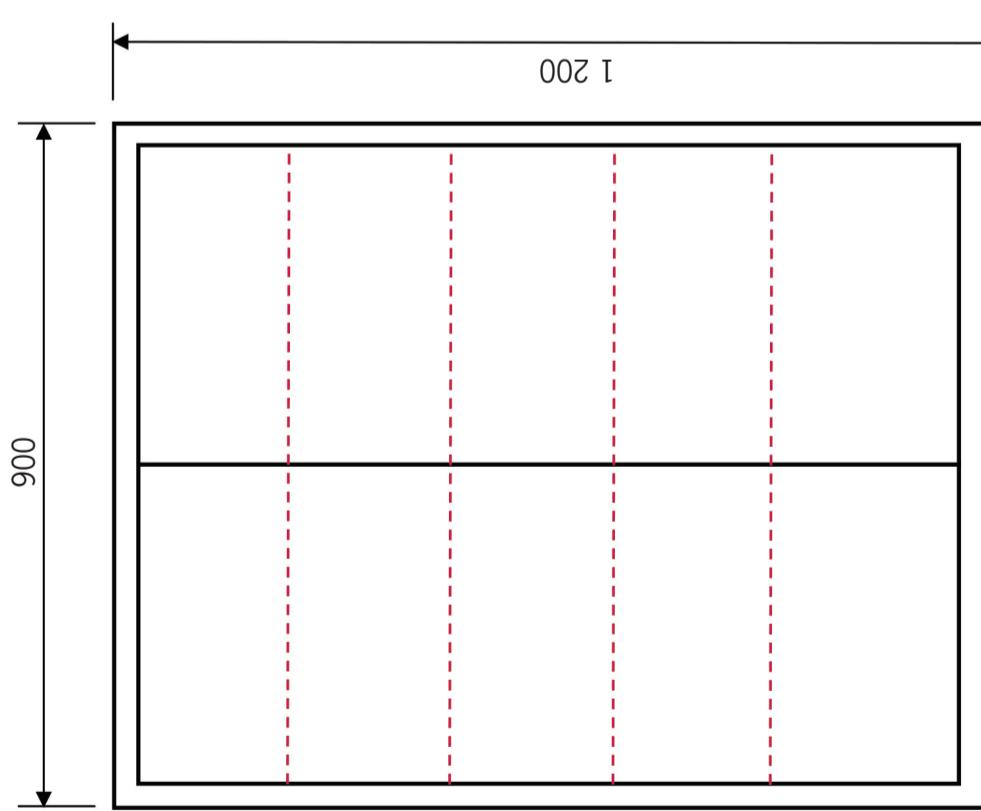

Figure 6
12. What is the scale of the working drawing of the cupboard in Figure 6? You will have to take measurements to find out what the scale is.